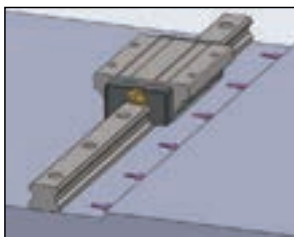

Fig 1.11.7 Holding an Linear Guide rail against the Reference Surface
(B) Gently place a Linear Guide rail on the base, and temporarily tighten the bolts so that the rail lightly contacts the mounting surface. Hold the line marked side of the Linear Guide rail against matching the base-side reference surface (Fig 1.11.7)